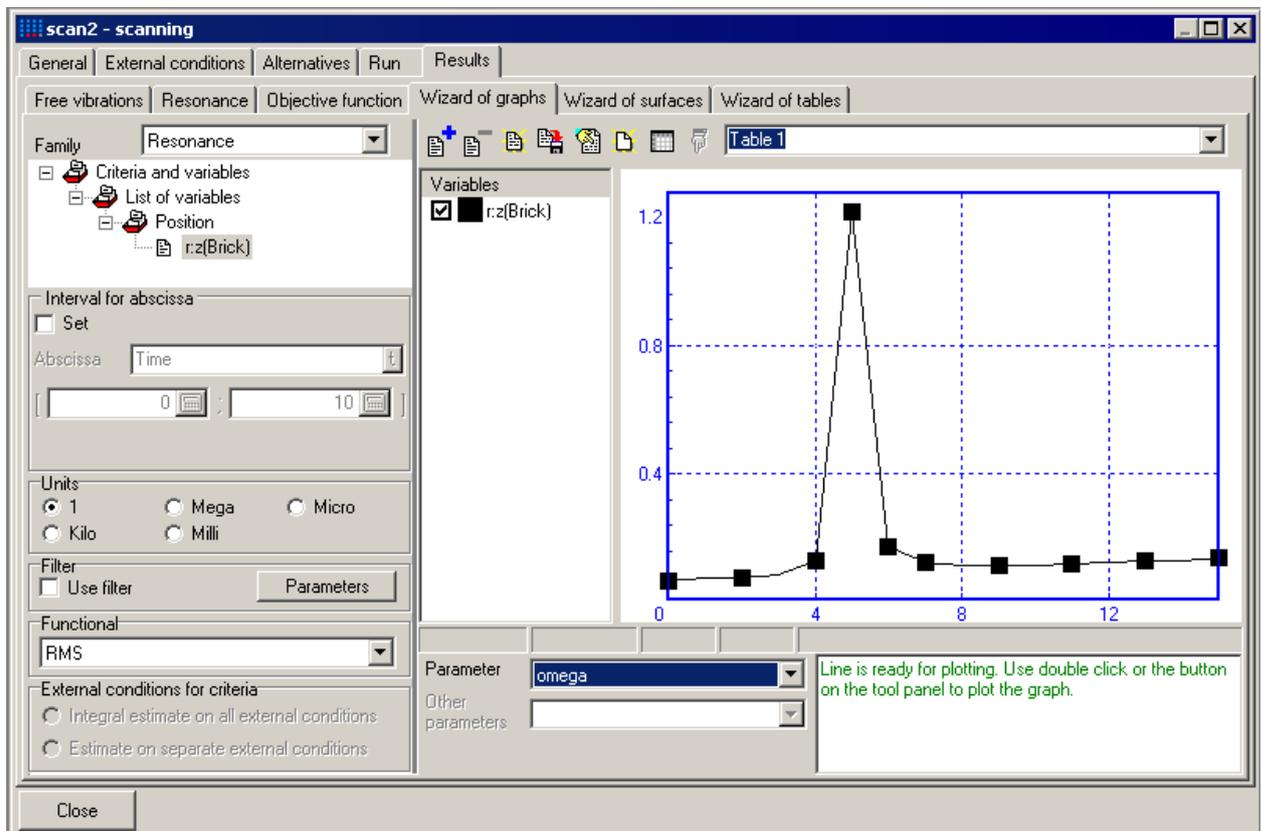

Figure 6.14. Wizard of graphs
The *wizard of graphs* (see Figure 6.14) is intended for forming dependence between a functional of any calculated variable on any parameter, when other parameters are fixed. Comments in the right bottom corner of the window will help you.
- Choose a family, a variable to be analyzed, functional and parameter for computing a dependence, see Figure 6.14.
Let us consider an example, see Figure 6.14. Here we can see the root mean square of the vertical position of the 1 d.o.f. oscillation system in dependence on *omega* parameter. In this case of forced oscillation *omega* means the frequency of the driving force. The resonance case is clearly shown.